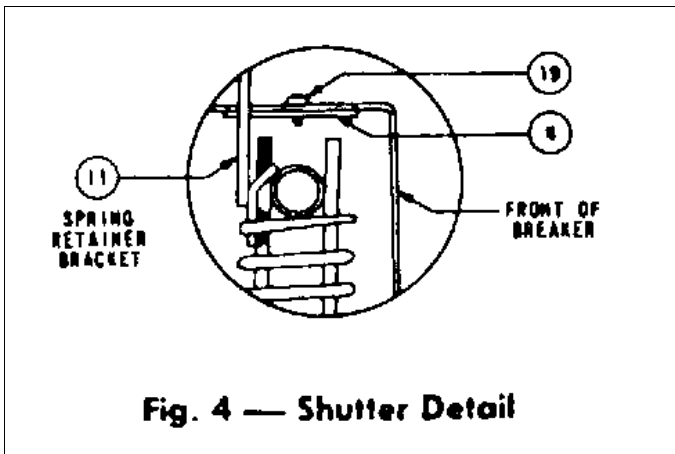

Figure 3)
b. For each set of eight contacts on one pole, the smallest gap "A" should be 0.105-0.110 inch. If adjustment is required, loosen lock screw (2, Figure 3). Turn adjustment screw (1) until 0.105-0.110 inch is obtained on the smallest gap of the eight contacts. Repeat this for the other two poles. Tighten lock screw (2).